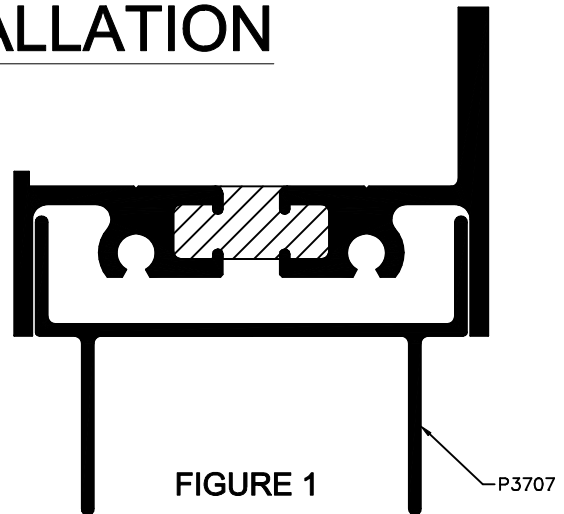

FIGURE 1
1. APPLY ADAPTER P3707 TO HEAD AND SILL MEMBERS USING PROGLAZE SG SILICONE PER FIGURE 1.
1. APPLY ADAPTER P3708 TO HEAD, SILL AND JAMBS USING PROGLAZE SG SILICONE PER FIGURE 1.